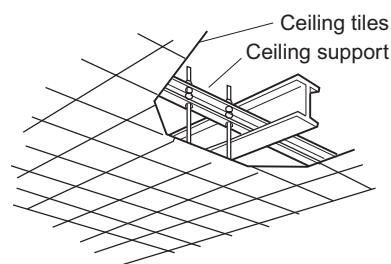

Fig. 2-132
- Use existing ceiling supports or construct a suitable support as shown in the diagram. (Fig. 2-132)